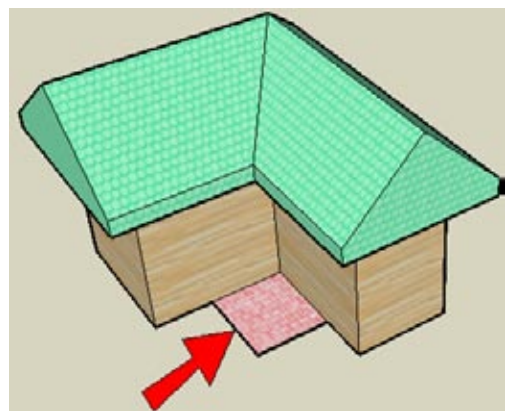

Figure 3-3
2. Draw the chimney footprint in the corner indicated in Figure 3-3.